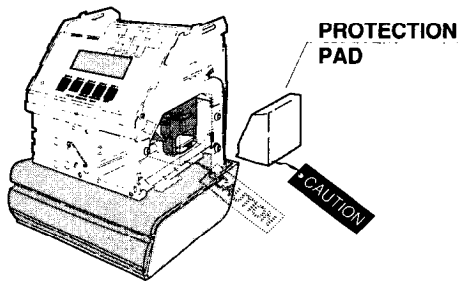

Figure 3
4. Remove and discard the protection pad (see Figure 3).